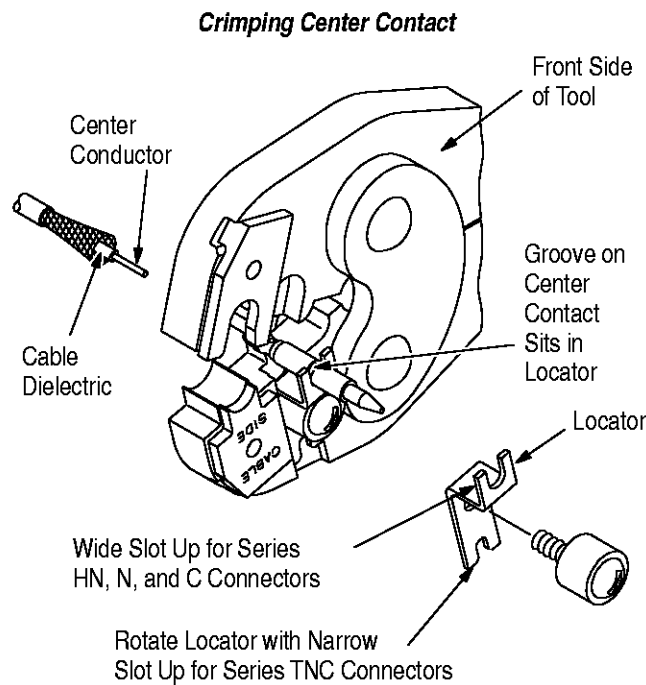

Figure 2
The locator, which positions the center contact in the proper area of the crimping chamber, has a slot on each end; a wide slot for positioning Series HN, N, and, C Connectors, and a narrow slot for positioning Series TNC Connectors. See Figure 2.
1. Make sure the locator is in the correct position for the type of connector being used. Refer to Figure 2.
4. Position center contact in locator, as shown in Figure 2. Make sure the groove on contact sits in locator. Close tool handles just enough to hold center contact in place without deforming the wire barrel.